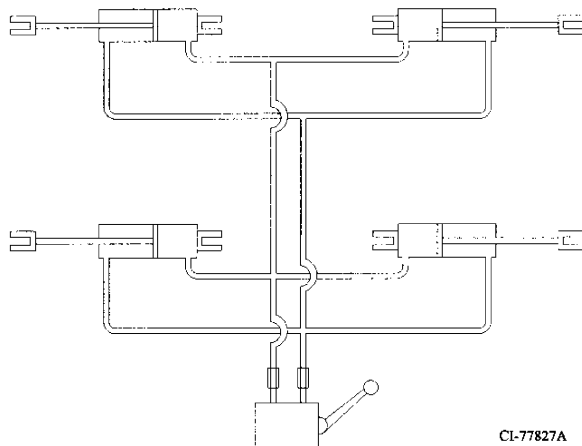

Fig. 4 Four Cylinder Wing Lift Circuit
Fig. 4 shows a simple four (4) cylinder circuit used to fold a pair of wings. This system is used on Wil-Rich field cultivators with a single pair of 9'4" or 11'8" folding wings.